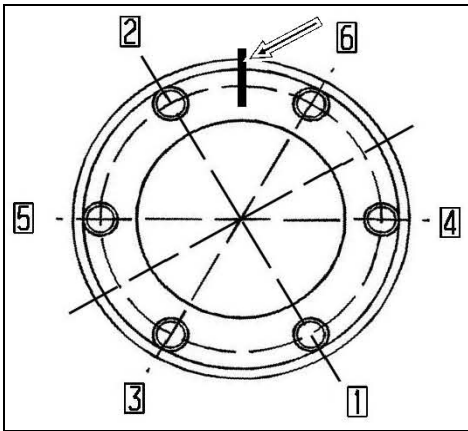
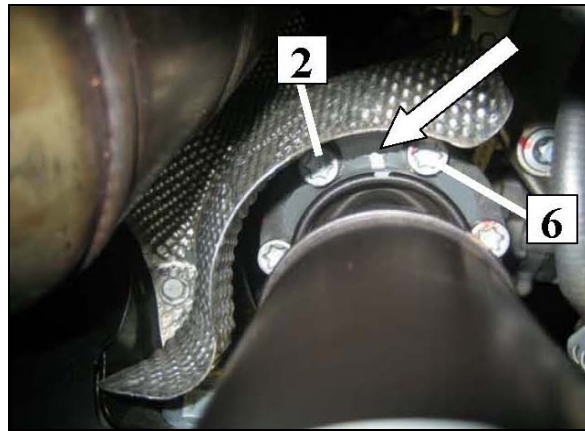

Figure 1
Figure 2
1. Replace bolts on the constant velocity joint between the front differential and the front driveshaft, observe the following tightening instructions (Figure 1).
2. White markings on front axle gear propeller shaft constant velocity joint and on front axle gear flange must be at the 12 o' clock position (Figure 2, arrow), until bolt 1 (Figure 1) has been tightened with initial torque. Always observe the tightening pattern.
- a. Tighten bolt 1 (Figure 1) with 10 Nm initial torque.